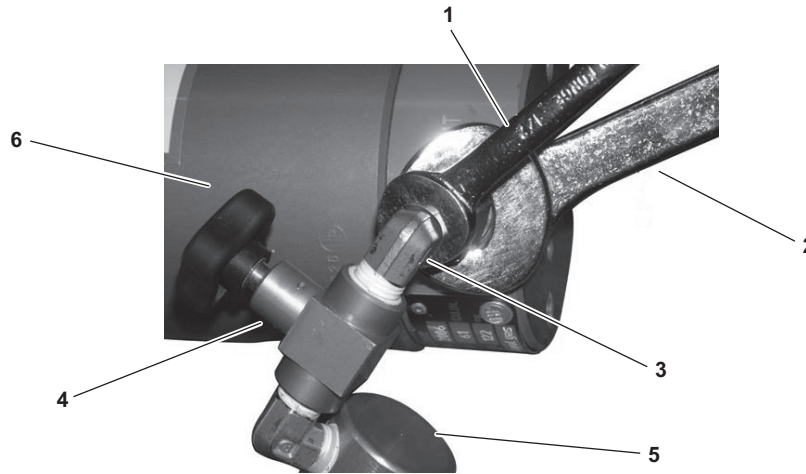

Figure 6-16. Using Wrenches to Remove P1 Bleed Valve and CO/H₂O Indicator Housing
- (3) While using a 7/8 inch wrench (figure 6-16, item 1) to hold the adapter in place, use a 1/2 inch wrench (figure 6-16, item 2) on the elbow (figure 6-16, item 3), turning it CCW to loosen and remove the P1 bleed valve (figure 6-16, item 4) and the CO/H₂O indicator housing (figure 6-16, item 5) together.
- (4) Place the CO/H₂O indicator housing (figure 6-16, item 5) in a vise, using protective material such as rags wrapped around the housing to avoid damage.
- (5) Use a 1/2 inch wrench to loosen (CCW) and remove the elbow fitting (figure 6-16, item 3) connecting the CO/H₂O indicator housing (figure 6-16, item 5) to the P1 bleed valve (figure 6-16, item 4).
- (1) Thoroughly clean the male and female threads of the CO/H₂O indicator housing (figure 6-16, item 5) and fittings, removing all previously applied anti-seize (Teflon[®]) tape. Do not allow tape particles to enter the valves.
- (2) Wrap anti-seize (Teflon[®]) tape around the male threads of all connections in a spiral CCW direction, starting at the second or third thread. Encircle the threads three times.
- (3) Place protective material around the CO/H₂O indicator housing (figure 6-16, item 5) in a vise, ensuring that it is held securely.
- (4) Use a 1/2 inch wrench to install the elbow fitting (figure 6-16, item 3) that connects to P1 bleed valve (figure 6-16, item 4). Turn the elbow fitting CW with the wrench until snug.
- (5) Remove the CO/H₂O indicator housing (figure 6-16, item 5) with the P1 bleed valve (figure 6-16, item 4) attached from the vise.
- (6) While using a 7/8 inch wrench (figure 6-16, item 1) to hold the adapter on the P1 purification chamber (figure 6-16, item 6) in place, use a 1/2 inch wrench (figure 6-16, item 2) on the elbow (figure 6-16, item 3), turning CW to install the P1 bleed valve (figure 6-16, item 4) to the P1 purification chamber. Tighten until snug.